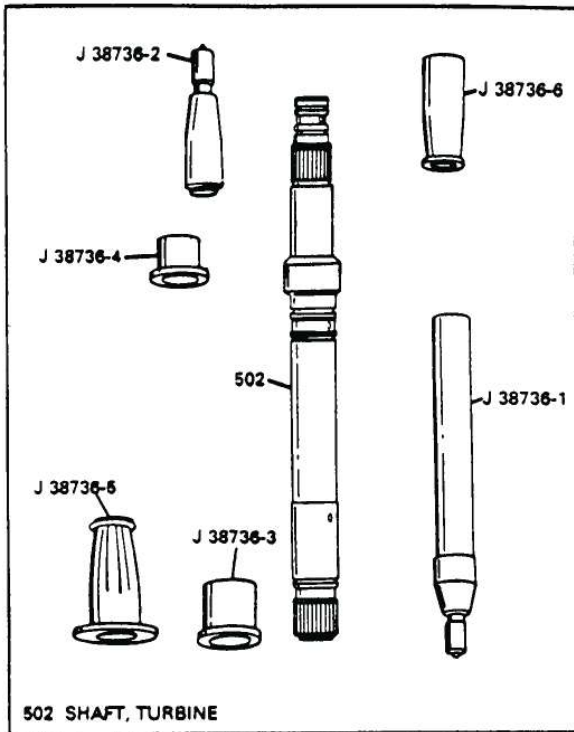

Figure 100
1. Place solid seal installer J-38736-2 onto small end of turbine shaft, as shown in Figure 100.
2. Push the solid seals over and down the installer until they are in place using pusher tool J-38736-6 (See Figure 100).
4. Place the sizer J-38736-4 over turbine shaft to size the solid seals in place. (See Figure 100).
6. Repeat the above procedure with the different size set of tools that are shown in Figure 100, for the seals on the large end of the shaft.
7. Install the overdrive roller clutch (512) onto the inner cam in the over-run clutch housing.